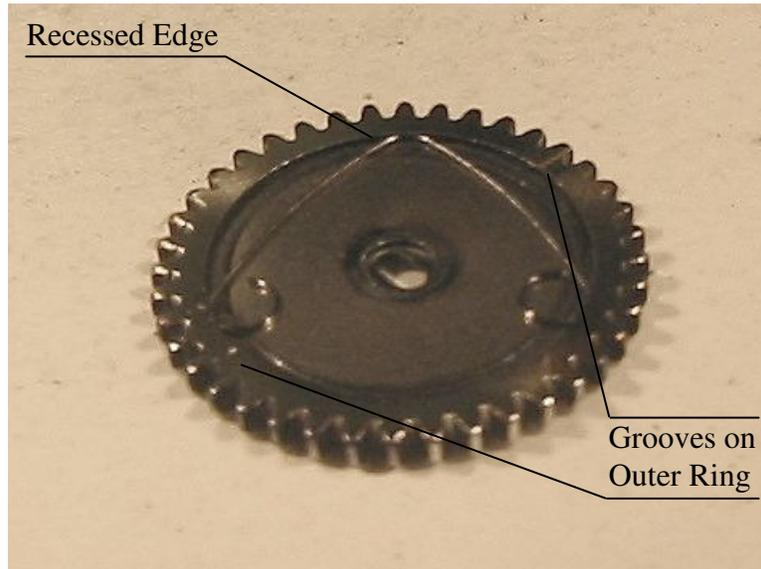

Figure 11 Assembled Fishione 3000 specimen holder.
- (2) Place TEM grid onto the groove of the bottom-plate;
- (3) Place a circular-aperture top-plate (no grooves) onto the TEM grid, aligning it with the bottom-plate;
- (4) Set spring clip over the top plate as shown in Figure 11. Make sure the spring ends and elbow rest in the recessed edge of the gear-tooth outer ring, while avoiding the grooves on the ring.